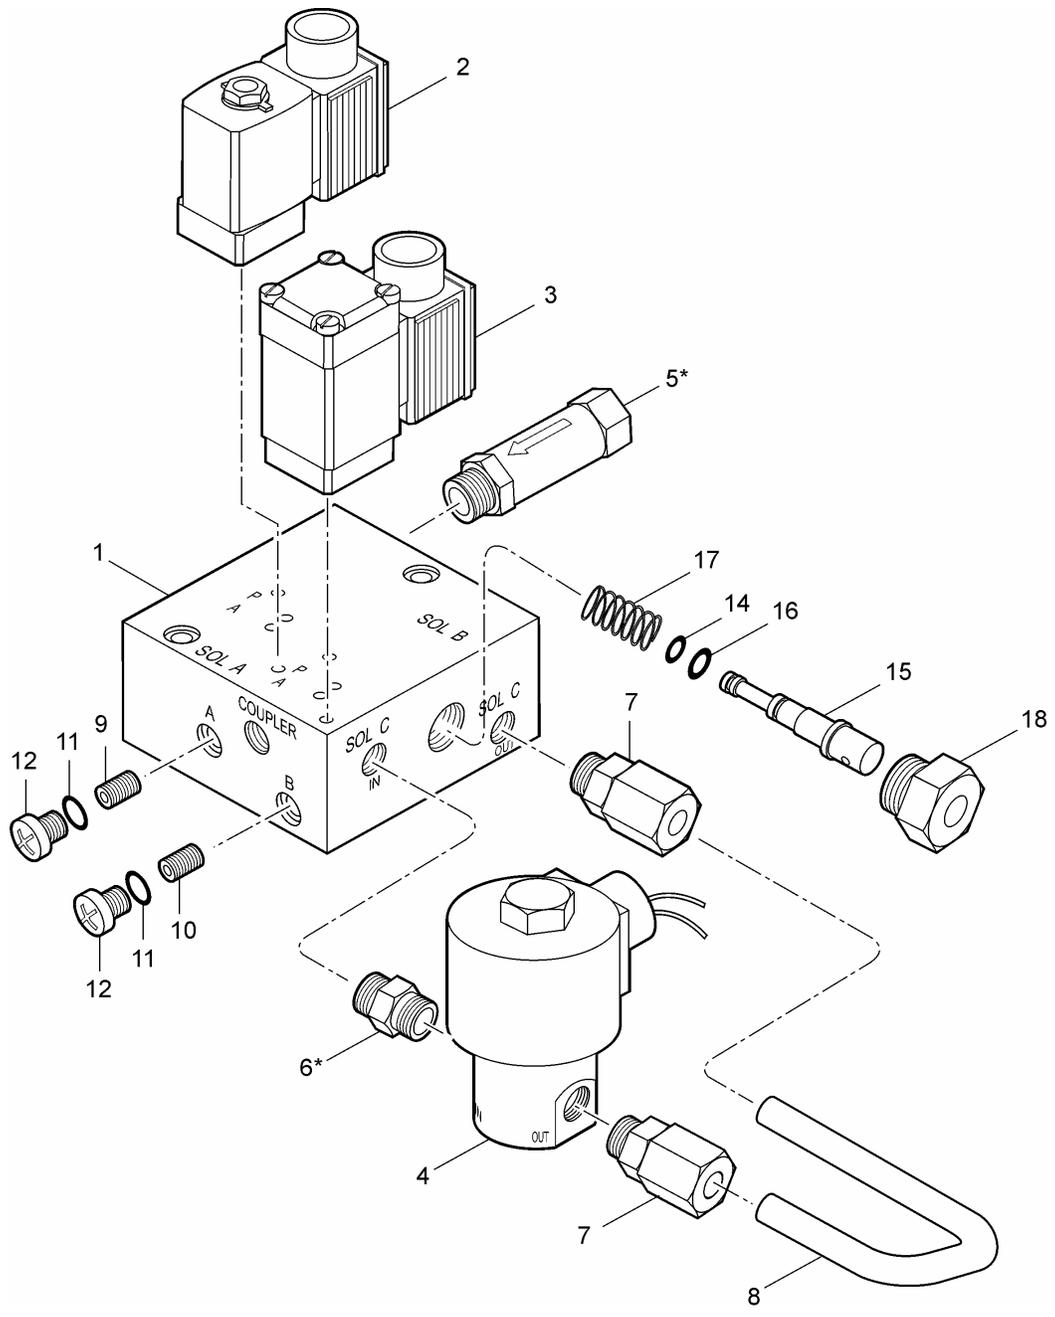

Figure 1
- 5.1 Reassembly is accomplished in essentially the reverse order of disassembly (Ref. Figure 1). A light coat of petroleum jelly may be used during overhaul but do not use any other type of lubricant, **ONLY PETROLEUM JELLY**. Loctite® Vibraseal or equivalent is to be used on NPT pipe thread joints. **THE USE OF TEFLON TAPE IS NOT RECOMMENDED FOR ANY THREADED CONNECTION OF THIS MANIFOLD.**
- 5.5.1 Install Solenoid C (1-4) onto the ¼" Union (1-6) and position as shown in Figure 1.
- 5.7 If either Solenoid A (1-2) or B (1-3) were removed, observe orientation of solenoids per markings on the solenoids and manifold block as shown in Figure 1.